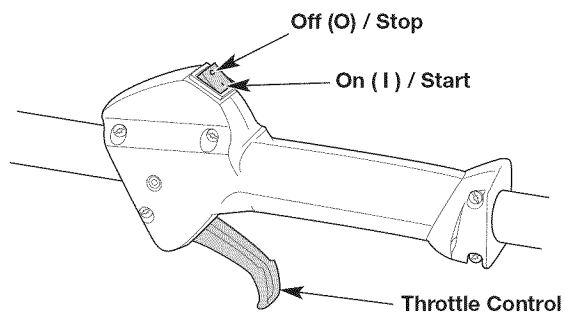
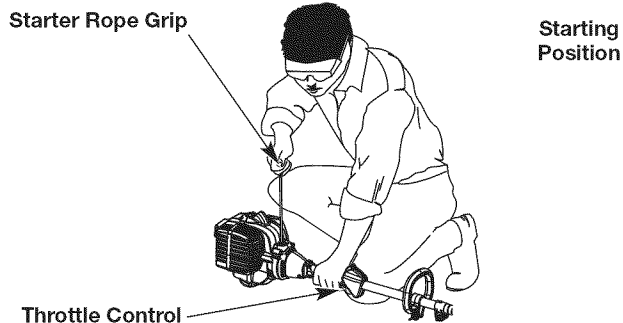

Fig. 3
Fig. 5
**WARNING:** Avoid accidentally starting the unit. To avoid serious injury, the operator and the unit must be in a stable position when pulling the starter rope (Fig. 5).
**NOTE:** There is no need to turn the unit on. The On/Off switch is in the ON (I) position at all times (Fig. 3).
5. Crouch in the starting position (Fig. 5).
6. Squeeze the throttle control (Fig. 3) and pull the starter rope with a controlled and steady motion **5 times** (Fig. 5).
2. Press and hold the On/Off switch in the OFF (O) position until the engine comes to a complete stop (Fig. 3).